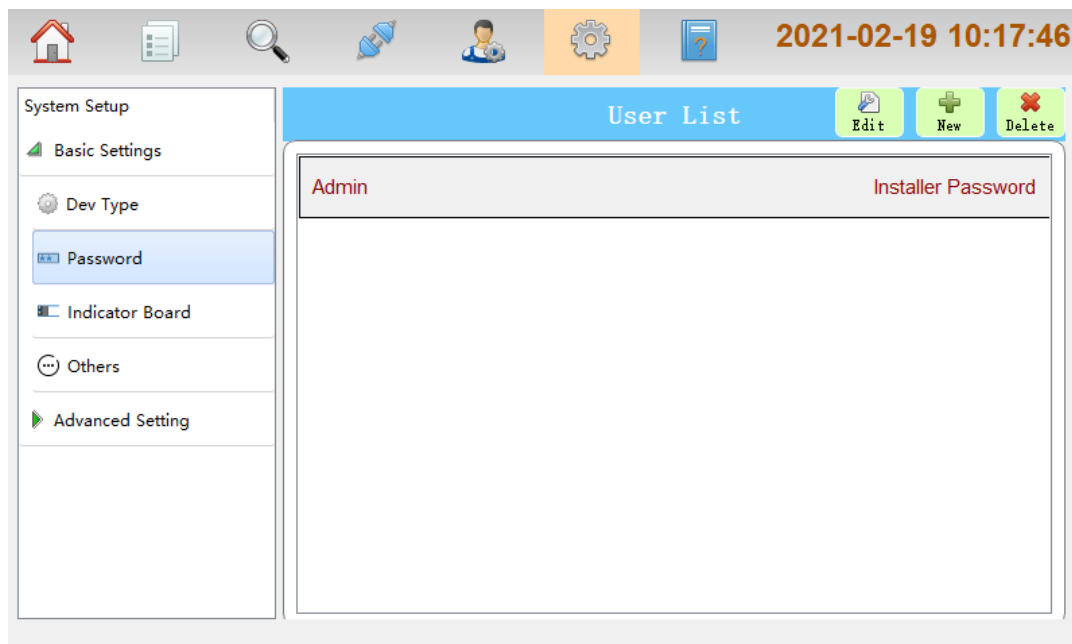

Fig. 5-3
- **Password**: clicking **Password** in **Basic Setting** menu enters the interface for user management as shown in the figure below Fig.5-3. Administrators can Add/Edit/Delete device user using buttons on top right corner. There are two types of passwords including **User Password** and **Engineering Password** for each user. Users using user password can only operate common function in **User Setup**. After setting, pressing **OK** can save the settings.